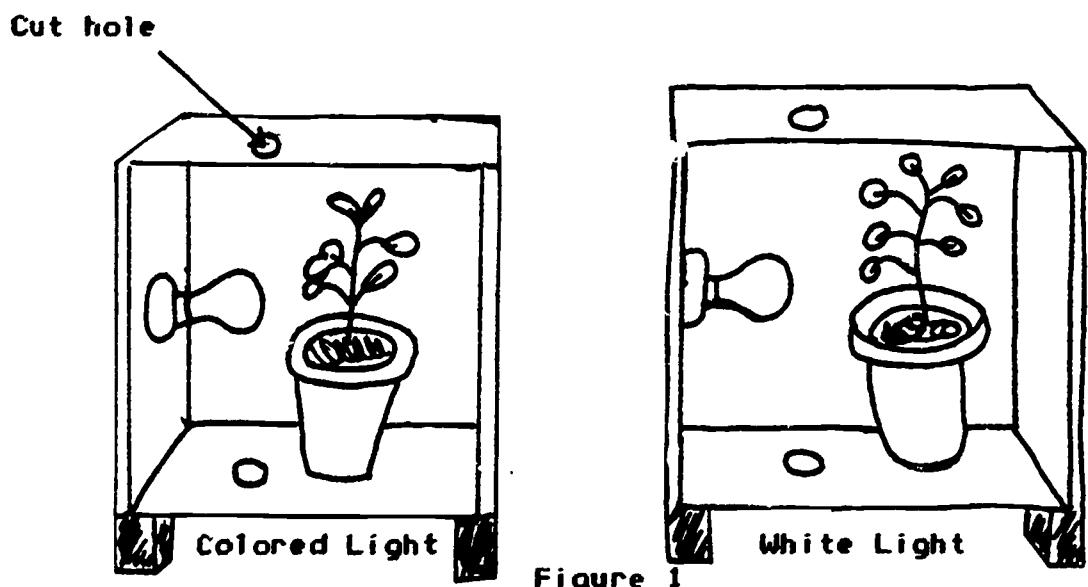

Figure 1
- C. Attach a light fixture to the end of each box as shown in Figure 1.